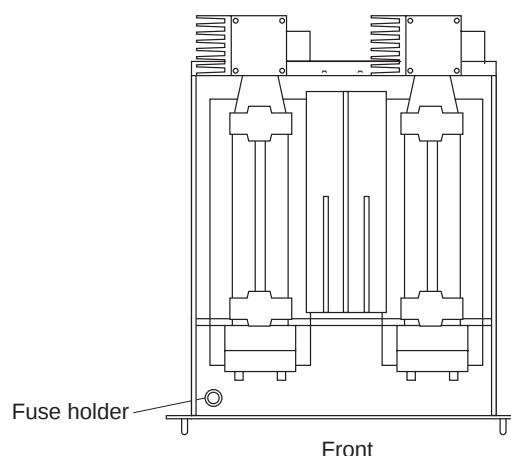

Fig. 7-3
- (1) Turn OFF the main power supply SW of the analyzer.
- (2) Loosen setscrews (4 pcs.) from the top of the analyzer and remove the top cover.
- (3) Turn the fuse holder (shown in Fig. 7-3) counterclockwise and put it out, and the cap will be removed. Remove the fuse (250 V AC/3 A) from the holder. Replace it with a new one .
- (4) Mount the fuse holder cap and cover for analyzer indication unit in the reverse procedure. Turn ON the power supply SW. The work will be completed if the analyzer is normally worked.